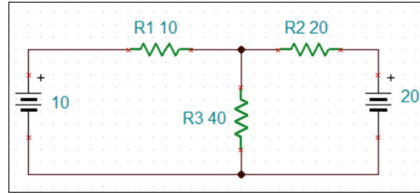

Figure 3.70 Circuit build on the simulator.
- Figure 3.70 shows the circuit built on the simulator.